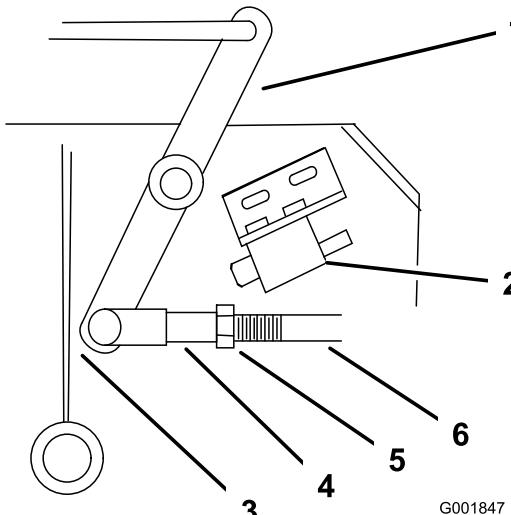

Figure 51
4. Adjust the linkage length to where the lower end of the bellcrank just clears the axle support gusset (Figure 51).
9. Loosen the nut against the yoke (Figure 51).